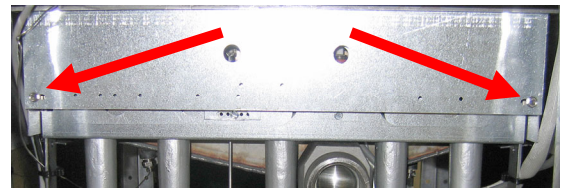

Figure 30
- Remove the outer cover plate by removing two screws as shown in Figure 30.